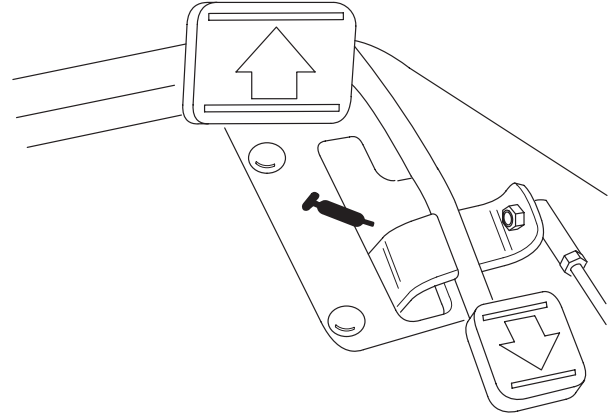

Figure 43
- Traction pedal pivot (1) (Fig. 43)